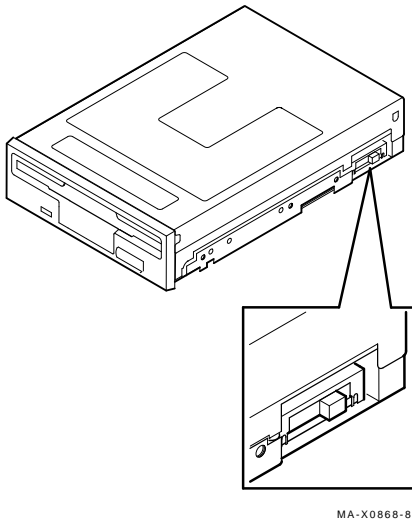

Figure 1-6 Setting the RX23 Drive Select Switch
1. Set the RX23's drive select switch to the zero position, which is all the way towards the back of the drive (Figure 1-6).